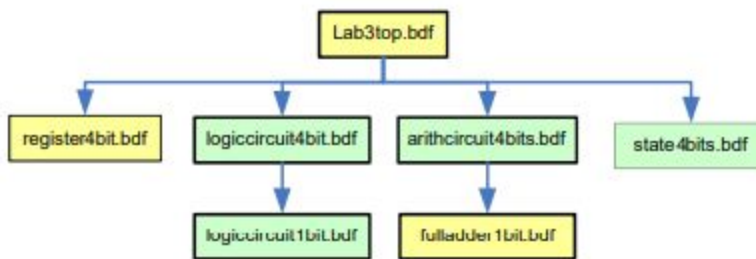

Figure 1. Hierarchy of Files
The lab at hand has three major requirements; the ability to create a 4 bit logic and shift circuit (LSC), the ability to create 4 bit Arithmetic Circuit (AC), and the ability to combine these logic circuits and other circuits such as a full adder, to create a functioning ALU or Arithmetic Logic Unit. To integrate all of these separate circuits into one, the design hierarchy needs to be understood. The hierarchy of files to reach the goal of this project are expressed in Figure 1 below.